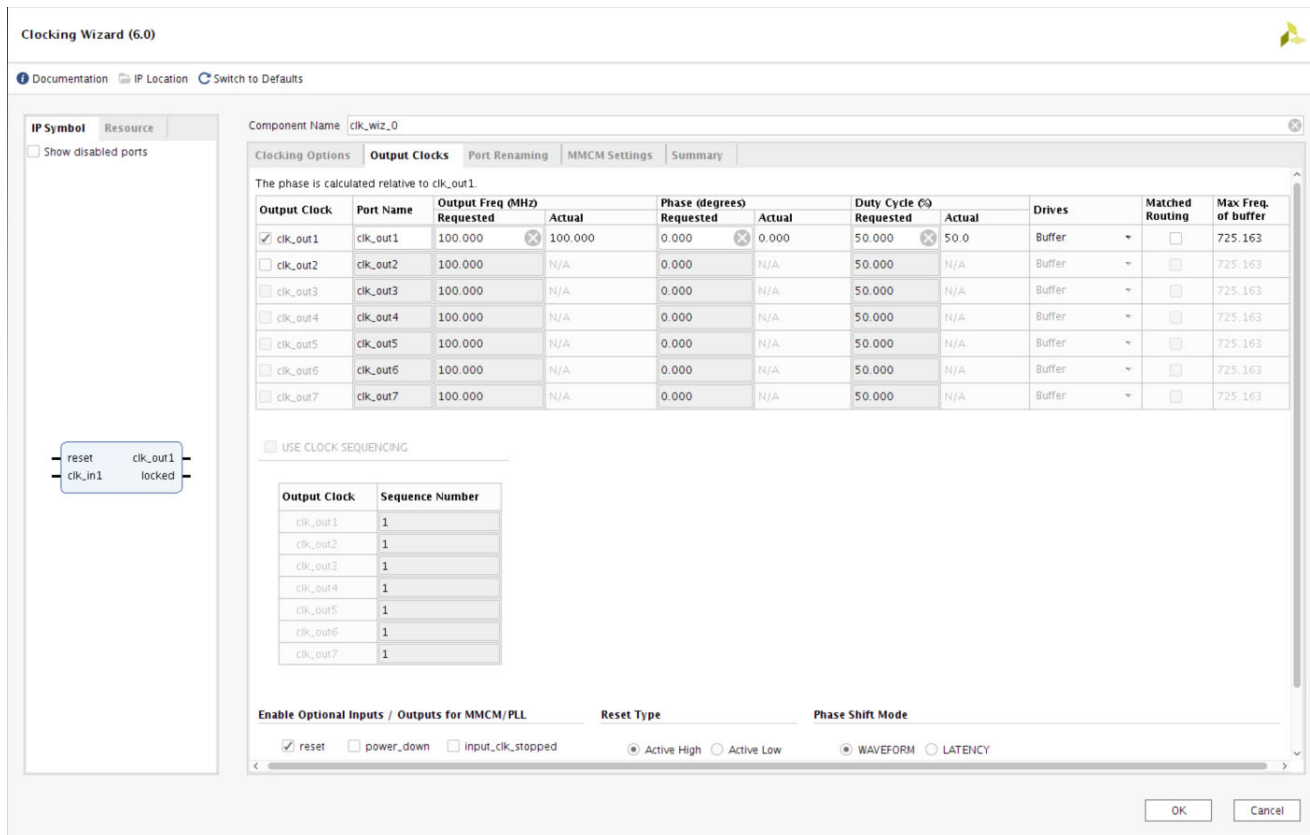

Figure 4-4: Output Clocks for MMCM (Spread Spectrum Unselected)
The requirements for each selected output clock can be configured on the **Output Clocks** tab in the IDE (Figure 4-4).
**Note:** The **Max Freq. of buffer** column in the **Output Clocks** tab of the Clocking Wizard (as shown in Figure 4-4) shows the maximum frequency of the clock that the selected output buffer can drive. When you select a buffer, ensure that the required frequency is within the range of frequencies that the buffer can support. Otherwise, you might get timing violations.